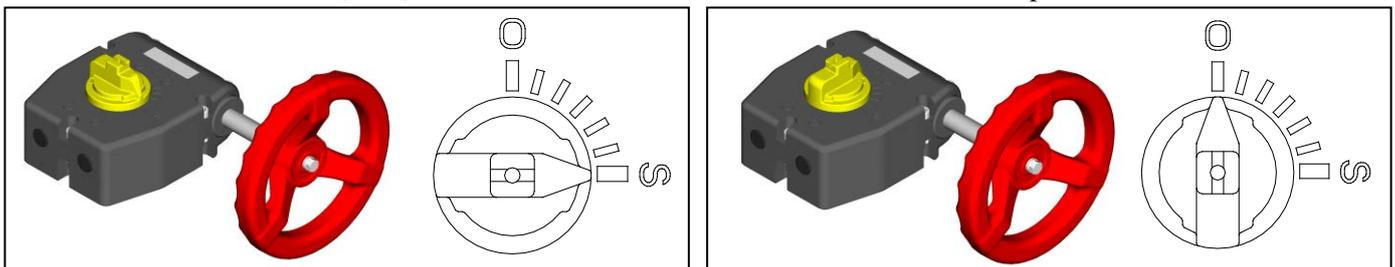

Fig.9-2
- 3) In case of gear type (50-200 mm {2"-8"}), the indicator shows the position of the disc on the top of gear box. (Fig.9-2, Fig.9-3)
- For the full-shut (close) position, the indication shows Shut (S).
- For the full-opened position, the indication shows Open (O).